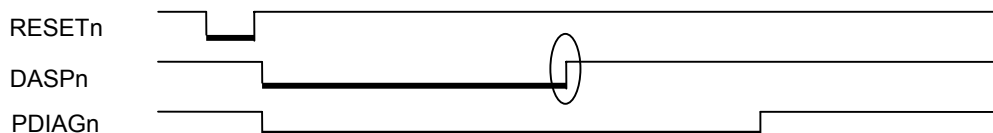

Figure 2-1
- When using the product in the Host mode and also in Slave type, as DASP will be released when receiving the first FIS, there would be a connection problem with the Master which samples DASP after the first FIS is received (ref. Figure 2-1).